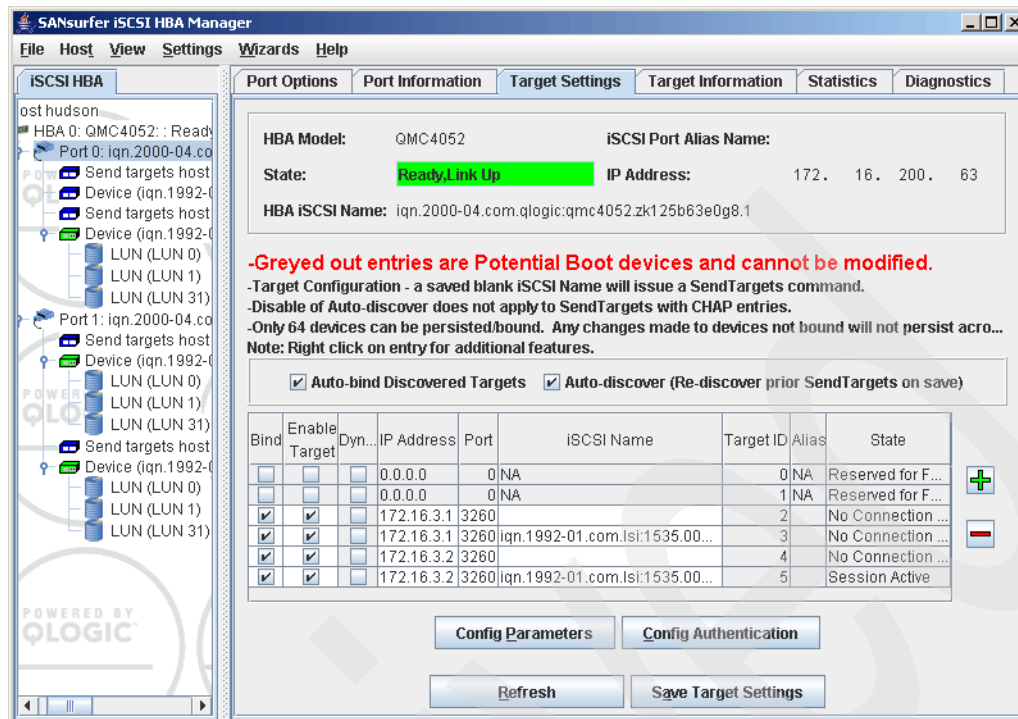

Figure 21-54 SANsurfer - Disconnect target
3. Save the configuration and refresh the configuration as prompted (click **Yes** to accept the configuration refresh). The configuration should now appear similar to Figure 21-54 on page 517, with no sessions active for the chosen target.